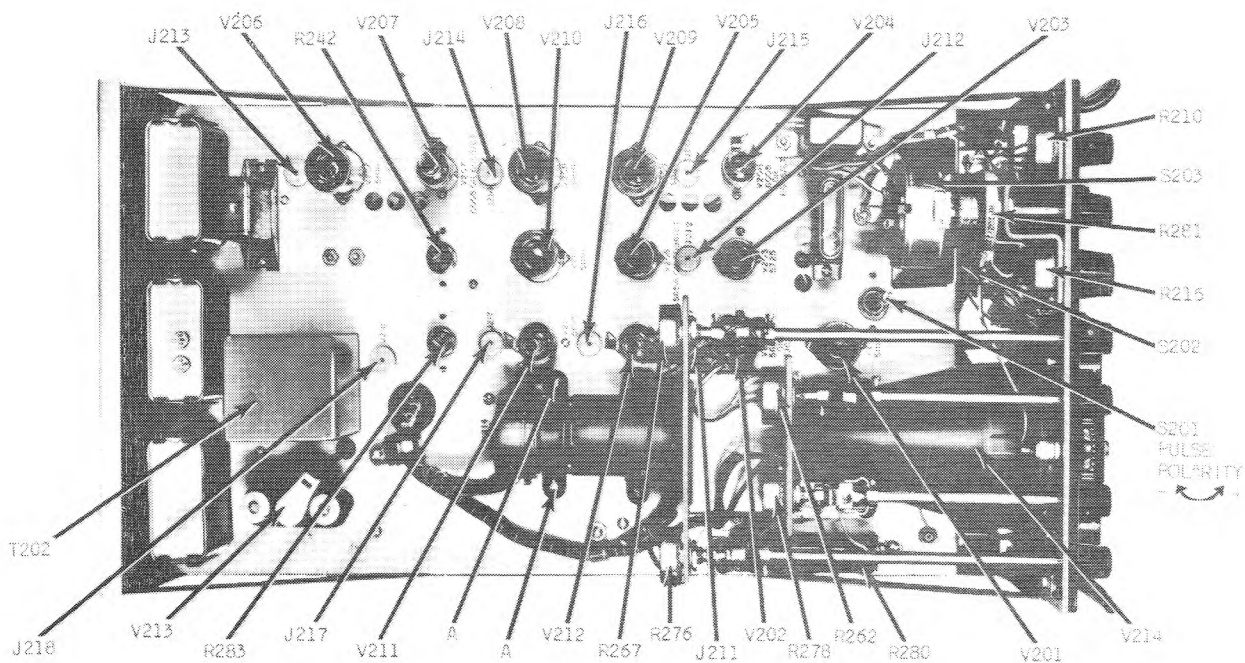

Figure 5-3. Azimuth Indicator IP-243/ALA-6, Top View of Chassis
5-12. AZIMUTH INDICATOR IP-243/ALA-6. To inspect the Azimuth Indicator unit, remove its dust cover by first turning the fastener screw at the back counterclockwise to release it and then sliding the chassis out. See figure 5-3. Make certain that all tube shields and spring type tube retainers are in place and solidly fastened; push each tube down firmly into its socket. See that all control shaft couplings are tightly secured. Make certain that the cathode-ray tube socket is firmly in place on the end of the tube itself, and that the plate cap to the high voltage rectifier tube (V213) is properly fixed to the cap.
- Step 2. If it will rotate on "300" rpm only, the speed-reducing series resistor, R280, is probably open and may be replaced in the field, since it is readily accessible on top of the Azimuth Indicator chassis (figure 5-3).
- Step 3. If the antenna will rotate on "150" rpm only, check the ANT. SPEED switch, S203 (figure 5-3), and its associated wiring for open circuits or contacts.